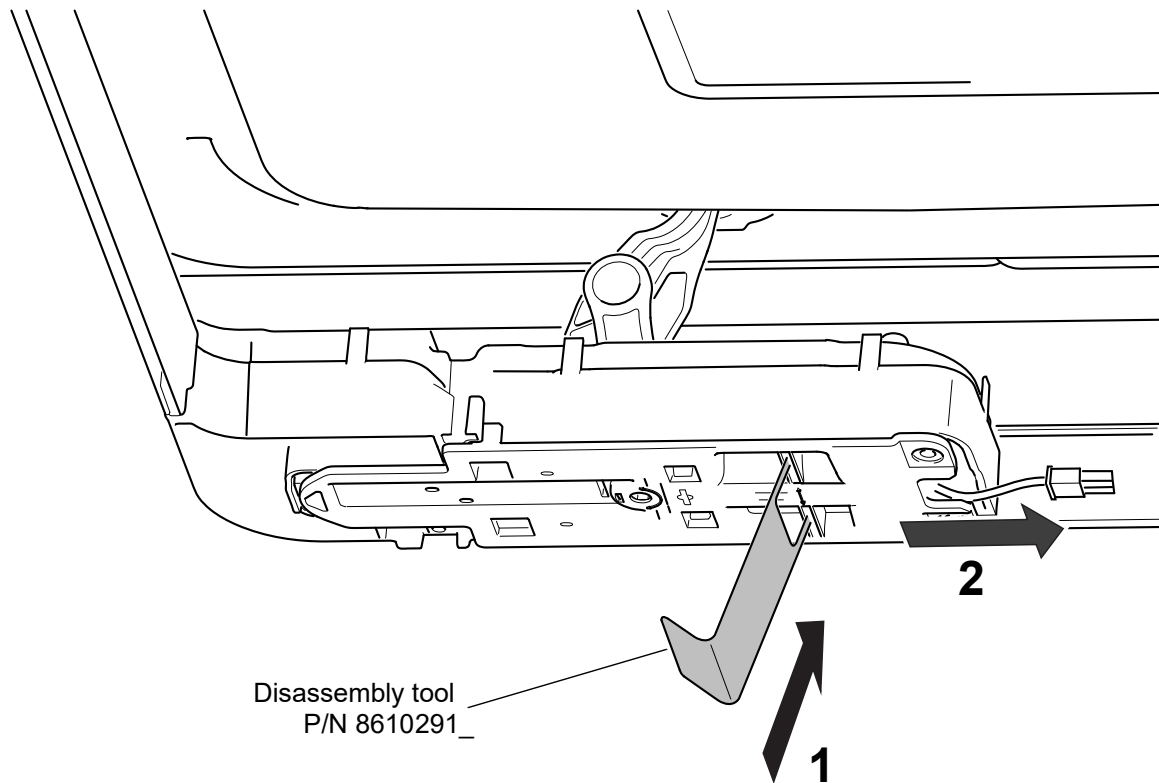

Fig. 806
4. Insert disassembly tool P/N 8610291_ into the both holes at the bottom of the lifting mechanism (see Fig. 806).